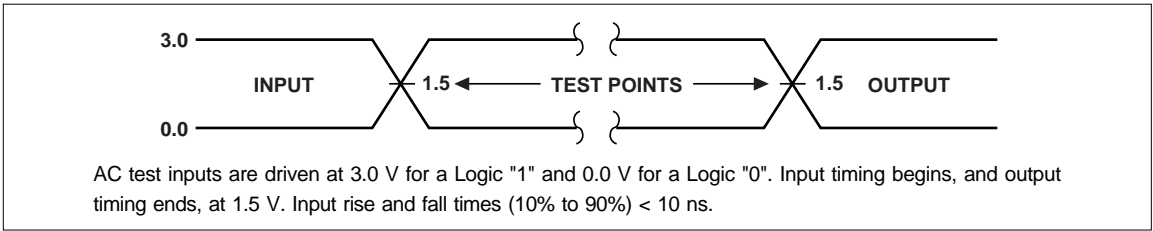
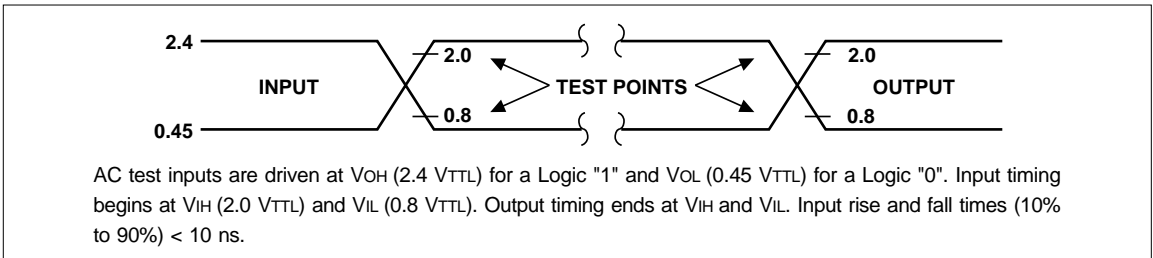
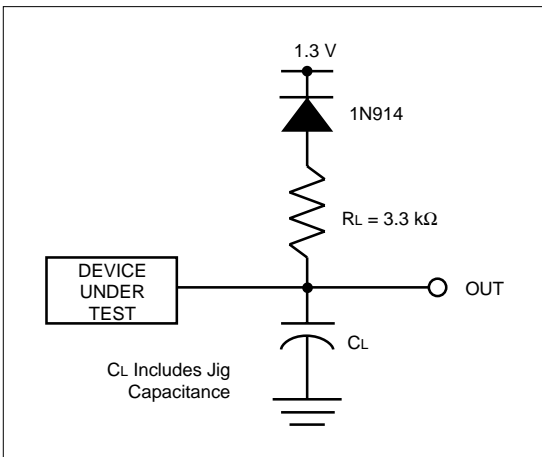

Fig. 12 Transient Input/Output Reference Waveform for $V_{CC} = 5.0 \pm 0.25 \text{ V}$ (High Speed Testing Configuration)
Fig. 13 Transient Input/Output Reference Waveform for $V_{CC} = 5.0 \pm 0.5 \text{ V}$ (Standard Testing Configuration)
Fig. 14 Transient Equivalent Testing Load Circuit
- See AC Input/Output Reference Waveform (Fig. 12 and Fig. 13) for maximum allowable input slew rate.
- See Fig. 12 "Transient Input/Output Reference Waveform" and Fig. 14 "Transient Equivalent Testing Load Circuit" (High Speed Configuration) for testing characteristics.
- See Fig. 13 "Transient Input/Output Reference Waveform" and Fig. 14 "Transient Equivalent Testing Load Circuit" (Standard Configuration) for testing characteristics.
1. See AC Input/Output Reference Waveform (Fig. 12 and Fig. 13) for maximum allowable input slew rate.
4. See Fig. 12 "Transient Input/Output Reference Waveform" and Fig. 14 "Transient Equivalent Testing Load Circuit" (High Speed Configuration) for testing characteristics.
5. See Fig. 13 "Transient Input/Output Reference Waveform" and Fig. 14 "Transient Equivalent Testing Load Circuit" (Standard Configuration) for testing characteristics.